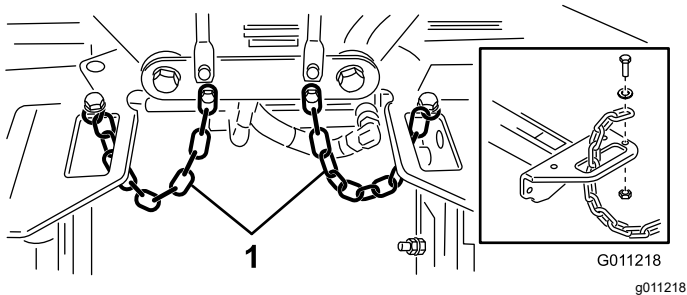

Figure 22
- Route a tipper chain up through the slot on the end of each carrier frame. Secure the tipper chain to the top of the carrier frame with a bolt, a washer, and a locknut (Figure 22).